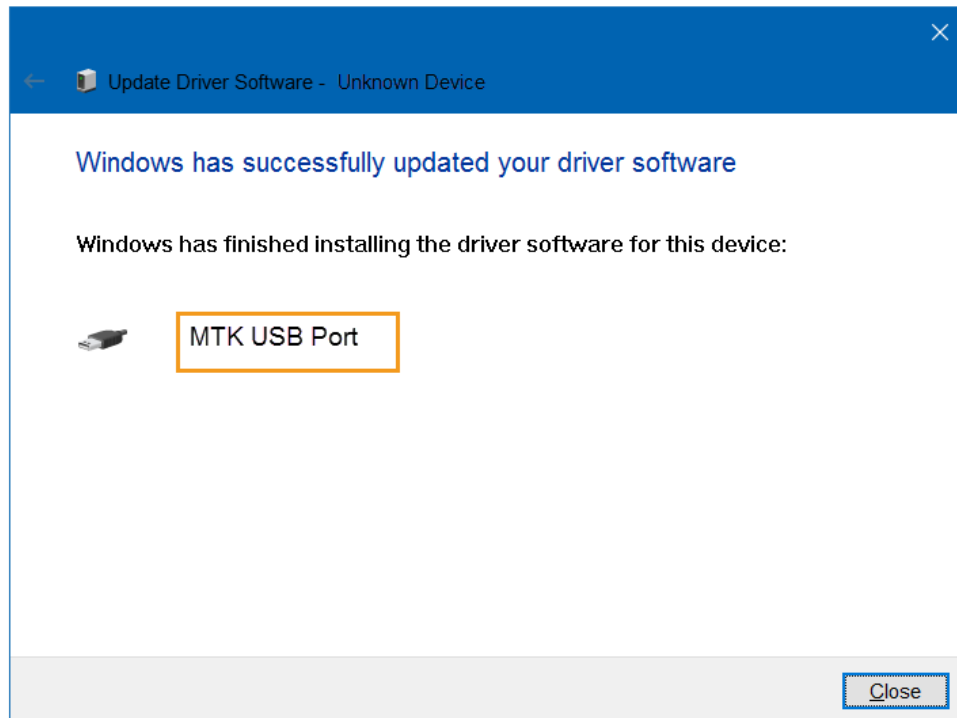

Figure 16. MTK USB Port on Windows 8 or later
- 5) Browse to the driver installation path, such as MS_USB_ComPort_Driver\v1.1032.1\Win7, then click **Next**. After a few seconds, the driver software and MTK USB Port device should be installed, as shown in Figure 16.